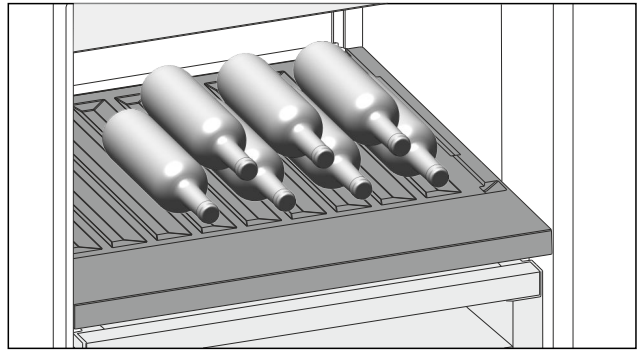

Fig. 145
- ▶ Place bottles in the back row with their bases against the back wall. (see Fig. 145)